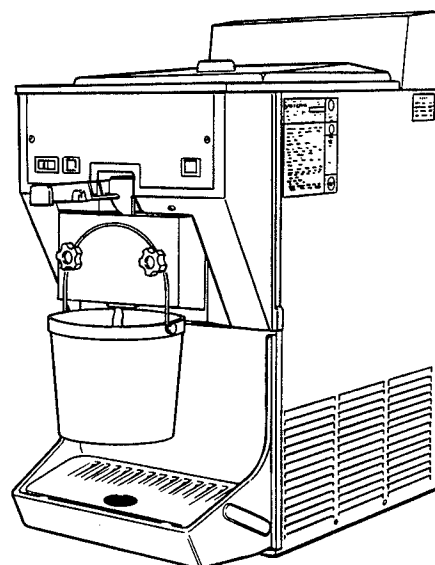

Figure 18. Draining Mix
- C. Drain the liquid mix by opening the spigot. A bucket or container should be placed under the spigot to catch the liquid mix (Fig. 18).